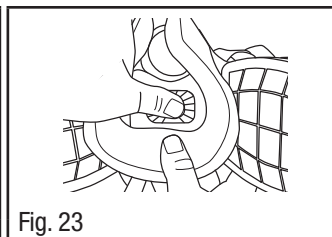

Fig. 23
3. Press the valve post through the hole in the valve seat (Fig. 23). Be certain valve is fully engaged through valve post and lays flat against the valve seat.